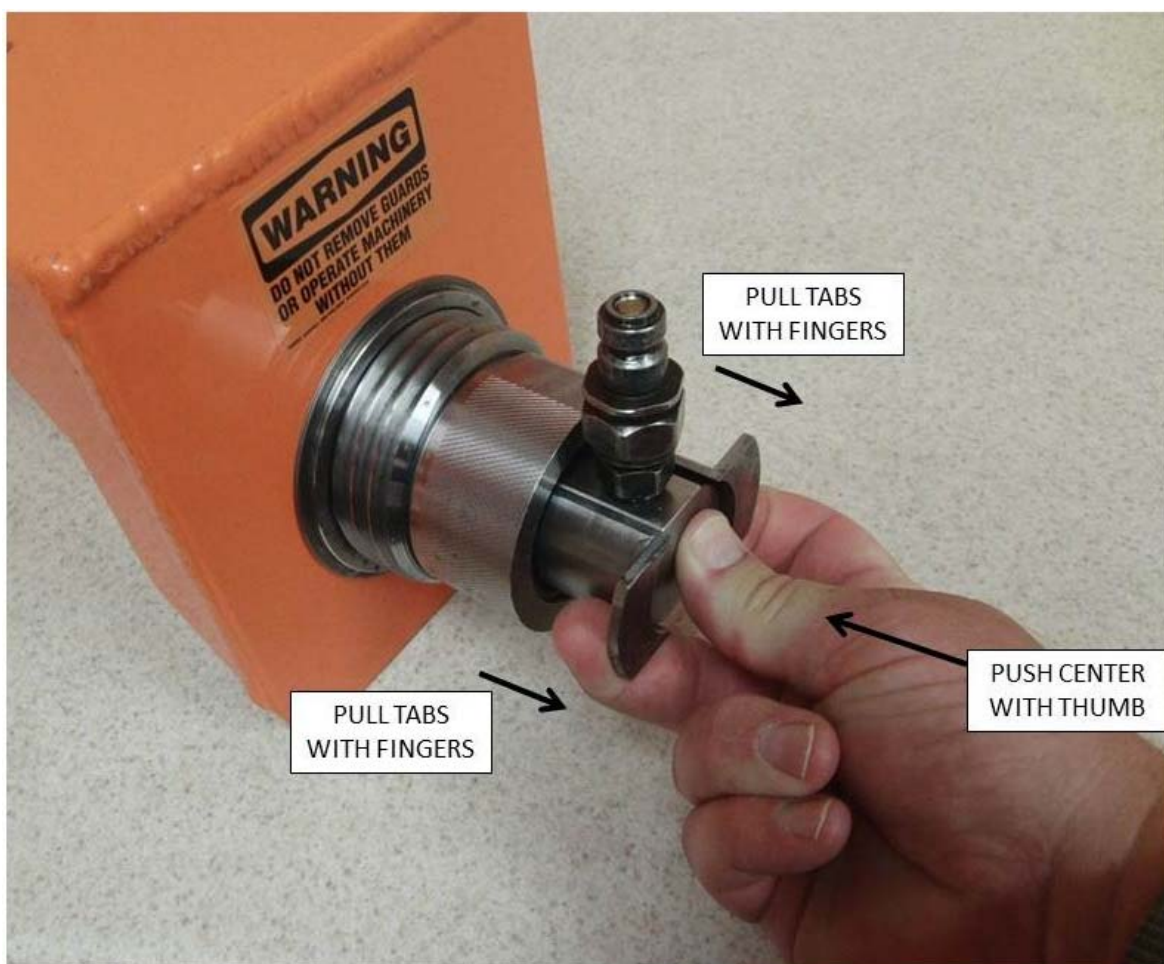

Figure 5 – Activation of custom connector
13. Activate custom connector from rear of guard by pushing on the center with your thumb and pulling the tabs with your fore finger and middle finger. Push the assembly forward until it locks onto the tensioner. Release fingers from tabs and then remove thumb. Ensure connection is firmly engaged or else the tensioner will not be connected to pump. (Figure 5)